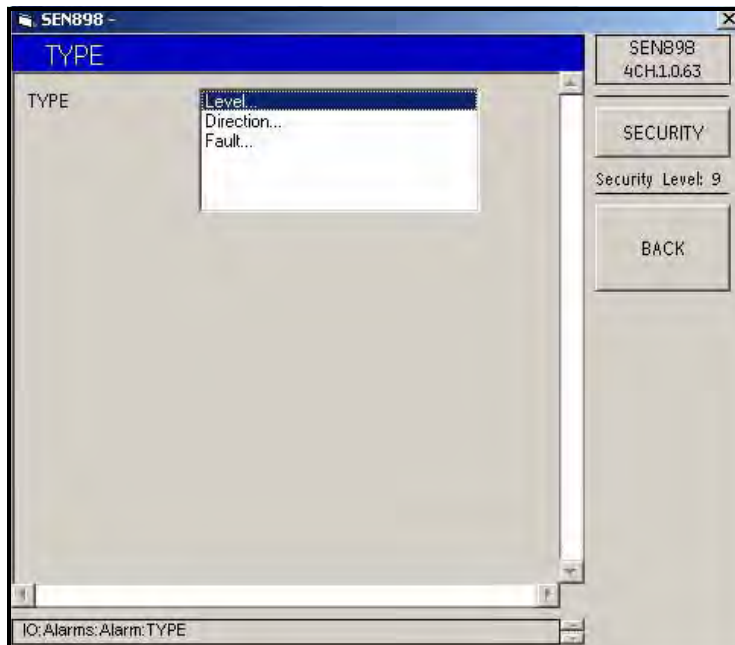

Figure 170: Alarm Type Options
16. To set up the alarm direction, from the Alarm Type Options menu (see Figure 170 on page 140), click twice on Direction... The following screen appears.